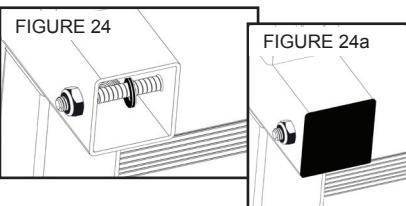

FIGURE 24a
- Cover the open end of the Front Ankle Bar Housing with the End Cap (Figure 24a).